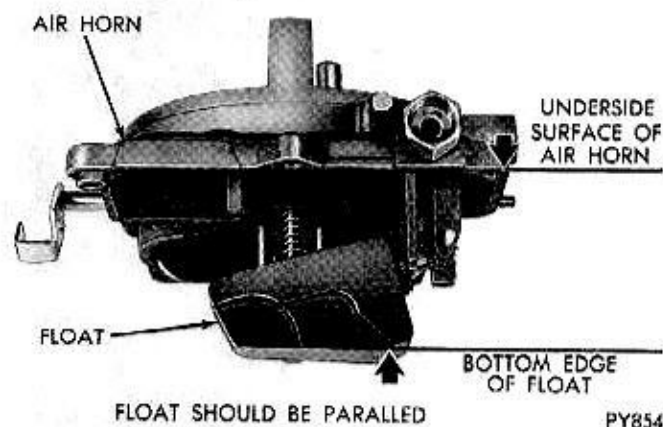

Fig. 20—Checking Float Drop
(4) Check float drop, by holding air horn in an upright position. The bottom edge of float should be parallel to underside surface of air horn. (Fig. 20). If an adjustment is necessary, bend tang on float arm until parallel surfaces have been obtained.